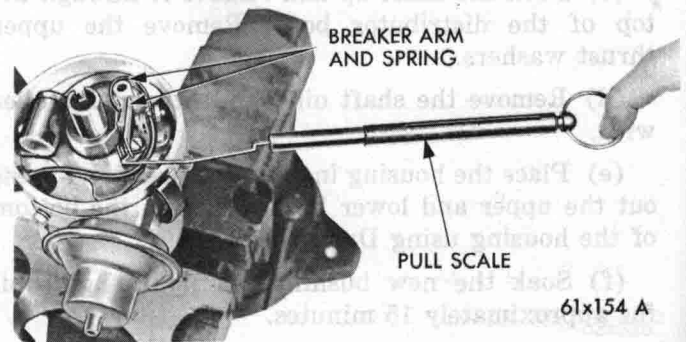

Fig. 67—Testing Breaker Arm Spring Tension
(1) Hook a spring scale Tool MTU-36 on the breaker arm and pull in a straight line at right angles to the point surfaces (Fig. 67). Take a reading as the points start to separate under the slow and steady pull of the scale. The spring tension should be 17 to 21.5 ounces. If the reading is outside these limits, loosen the screw which holds the end of the breaker arm spring and slide the end of the spring in or out, as necessary.
(2) Tighten the screw and measure the spring tension.